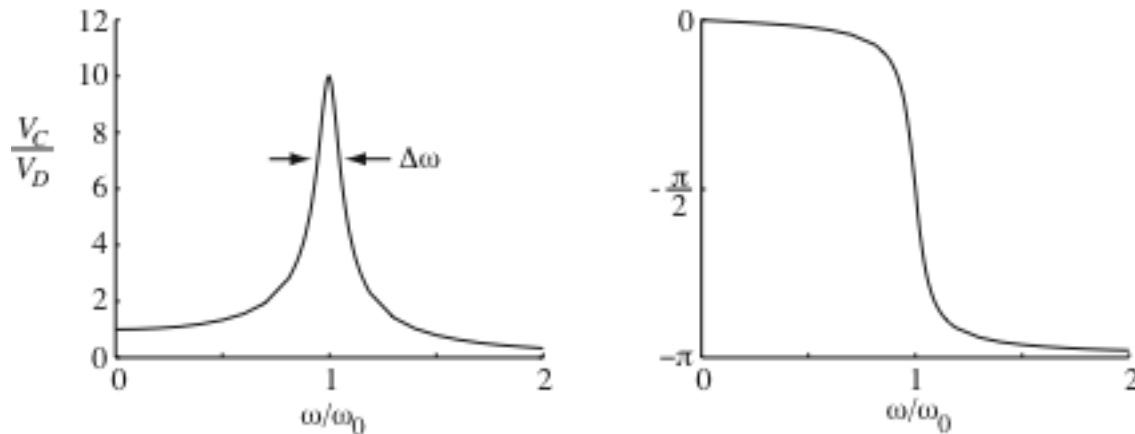
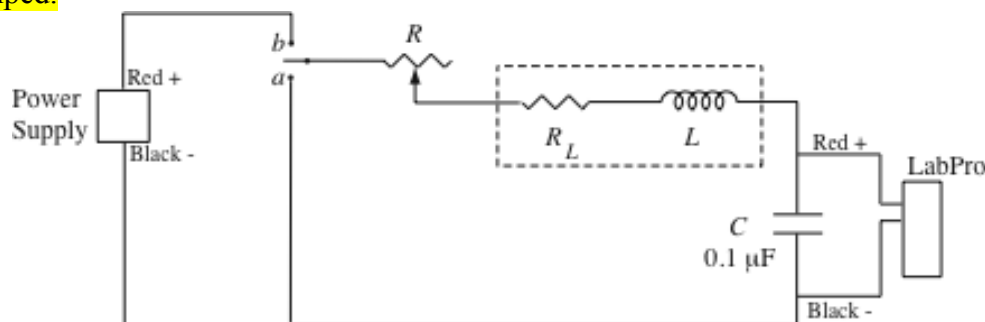
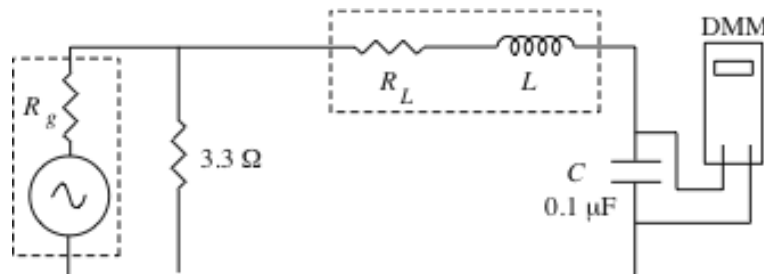
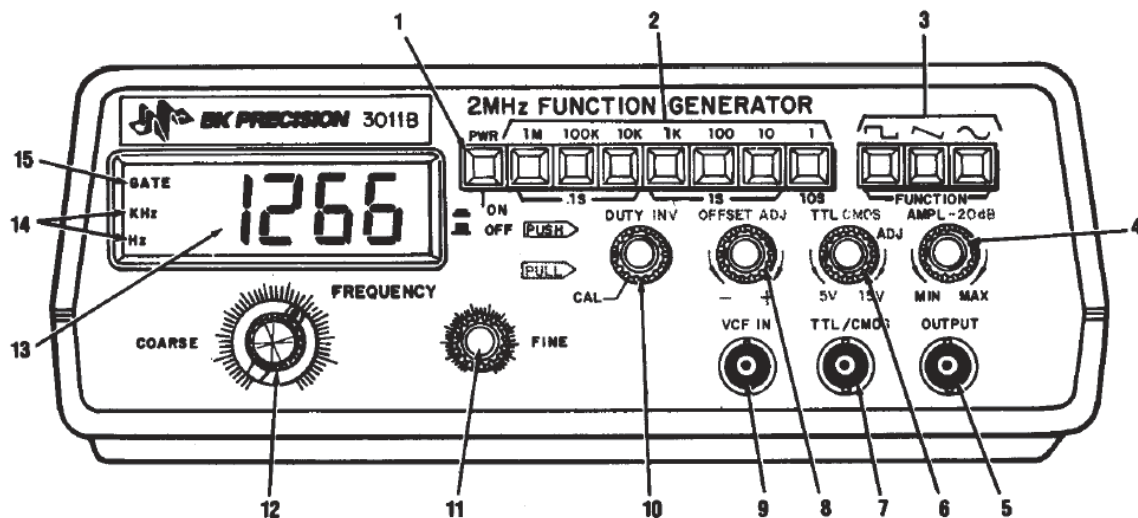

Fig. 3 Amplitude and phase of capacitor voltage as a function of frequency.
Fig. 4 Circuit for measuring free oscillations in an RLC circuit.
Fig. 5 Circuit for measuring driven oscillations in an RLC circuit.
Fig. 6 The front panel of the function generator, with controls marked.
These two equations are plotted in Fig. 3, where we use the fact that  $V_C = q_C / C$  to plot the voltage across the capacitor relative to the driving voltage. (Our apparatus does not allow us to observe the phase of the response, so we won't consider that further.)
Since the shape of the peak in  $V_C$  characterizes the resonance, it is convenient to have some parameter to specify the sharpness of the peak. Traditionally, this is taken to be the full width  $\Delta\omega$ , shown in Fig. 3, at which the voltage or current has fallen to  $1/\sqrt{2}$  of the peak value. The reason for this choice is that the power dissipation is proportional to  $I^2$ , so these frequencies correspond to the points at which the power dissipation is half of the maximum. Using Eq. 9 we find that the width is related to  $\tau$  by
To study the “free oscillations case” we will use LoggerPro to record the voltage across the capacitor as a function of time. The required circuit is shown in Fig. 4. Since the coil is not made with superconducting wire, we account for the wire resistance with  $R_L$ . **The variable resistor, shown on Fig. 4 by a resistor symbol with an arrow in the middle on the circuit box, should be set initially to the minimum possible resistance.** (You can use the DMM in ohmmeter mode to check that the variable resistor is set to the minimum value before connecting the variable resistor into the circuit.) **The power supply should be set to its maximum output.** The toggle switch should be placed between the power supply and the variable resistor.
To study the driven solution we need to use a sine-wave signal source whose operation is explained below in Fig. 6. The real function generator is equivalent to an ideal sine-wave generator in series with a **50  $\Omega$  resistor**, labeled  $R_g$  in the Fig. 5. **See Page 7 for details for operating the sine-wave generator.** Since  $R_g$  is large enough to affect the damping of the circuit, we add the 3.3  $\Omega$  resistor in parallel to reduce the effective resistance of the generator. The other change from Fig. 4 is to replace the LabPro with **a DMM, set to read AC voltage.** (The DMM can read AC voltages between about 30 Hz and 1000 Hz. It is unreliable outside of that range.)
Connect the circuit as shown in Fig 5, and then vary the driving frequency to find the frequency at which  $V_C$  is maximized. This identifies the resonance frequency, in Hertz. Next, you should plot  $V_C$  as a function of frequency, taking care to get enough data around the resonance frequency to clearly define the curve. This goes very quickly if you enter  $f$  and  $V_C$  directly into **Graph.cmb1** and then pick data points to trace the regions of interest. Does your plot look like Fig. 3?
Figure 6 shows the control panel of the function generator most often used in this lab. The instrument is turned on with the power switch, item (1) in the figure. A sine, square or triangle waveform is selected with the buttons labeled FUNCTION (3). The frequency range is determined by pushbuttons (2), and the exact frequency is then set using the coarse and fine FREQUENCY knobs (12, 11, respectively). The output amplitude is determined by the AMPL knob (4). Pulling gently on the AMPL knob toward you decreases the output amplitude by a factor of 10. The display (13) shows the output frequency numerically in Hz or kHz, according to the indicator (14) and decimal point on the display. The selected output appears as a voltage at OUTPUT (5). The other controls and outputs are more specialized, and will not be used here.